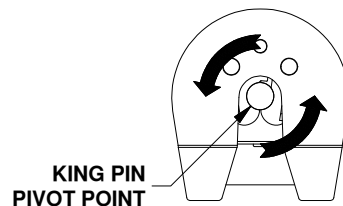
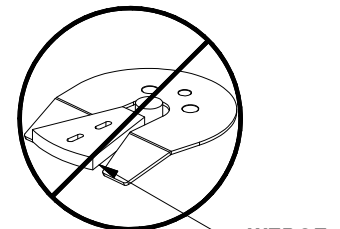

Figure G1:
Figure G2:
- ⚠ WARNING:** Do not use the 5th wheel hitch with any device that changes the location of the king pin pivot point. The king pin on your trailer must rotate in the jaws of the coupler, see Figure G1. Preventing the king pin from rotating within the jaws of the coupler with a wedge, see Figure G2, or any other device, such as a Reese Sidewinder® or Reese Revolution®, could result in property damage, serious injury, or death.